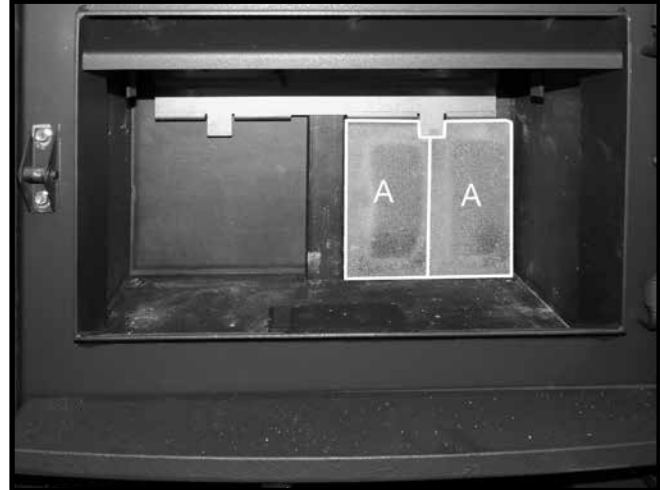

Figure 25: Installing the 2nd rear wall firebricks.
2. Slide a 2nd "A" firebrick underneath the tab on the brick rail (Figure 25).